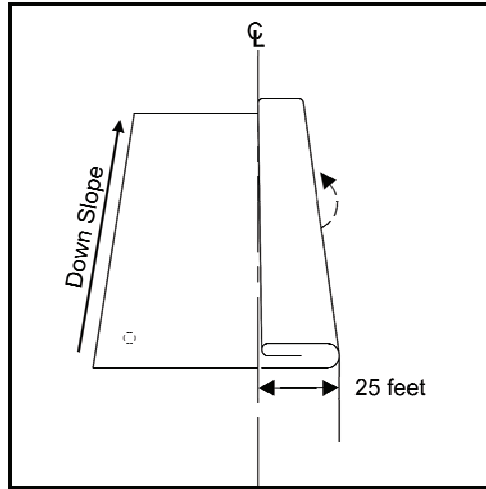

Figure 16. Folding the edge to center, 2nd time.
3. Fold the folded edge to center, again (Figure 16).